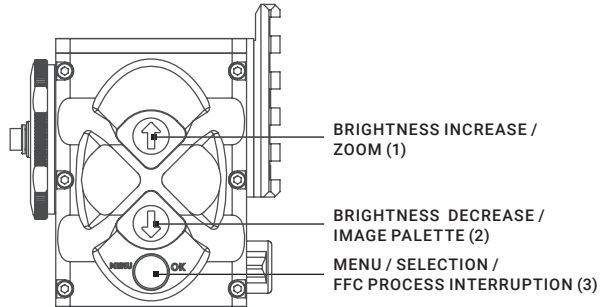

FIGURE 2-16. SETTING BUTTONS
6. Using the buttons on the control panel (Figure 2-16), configure the Cobra to adapt it to your situation.